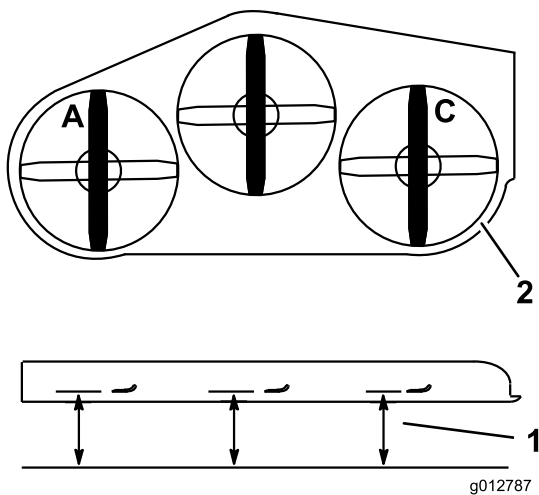

Figure 86
1. Position the left blade front-to-rear (Figure 86).
2. Measure the left blade at the **A** location, from a level surface to the cutting edge of the blade tip and record this measurement (Figure 86).
3. Position the right blade front-to-rear (Figure 86).
4. Measure the right blade at the **C** location, from a level surface to the cutting edge of the blade tip and record this measurement (Figure 86).
2. Position the left blade front-to-rear (Figure 86).
3. Measure the left blade at the **A** location, from a level surface to the cutting edge of the blade tip and record this measurement (Figure 86).
- Position the right blade front-to-rear (Figure 86).
- Measure the right blade at the **C** location, from a level surface to the cutting edge of the blade tip and record this measurement (Figure 86).